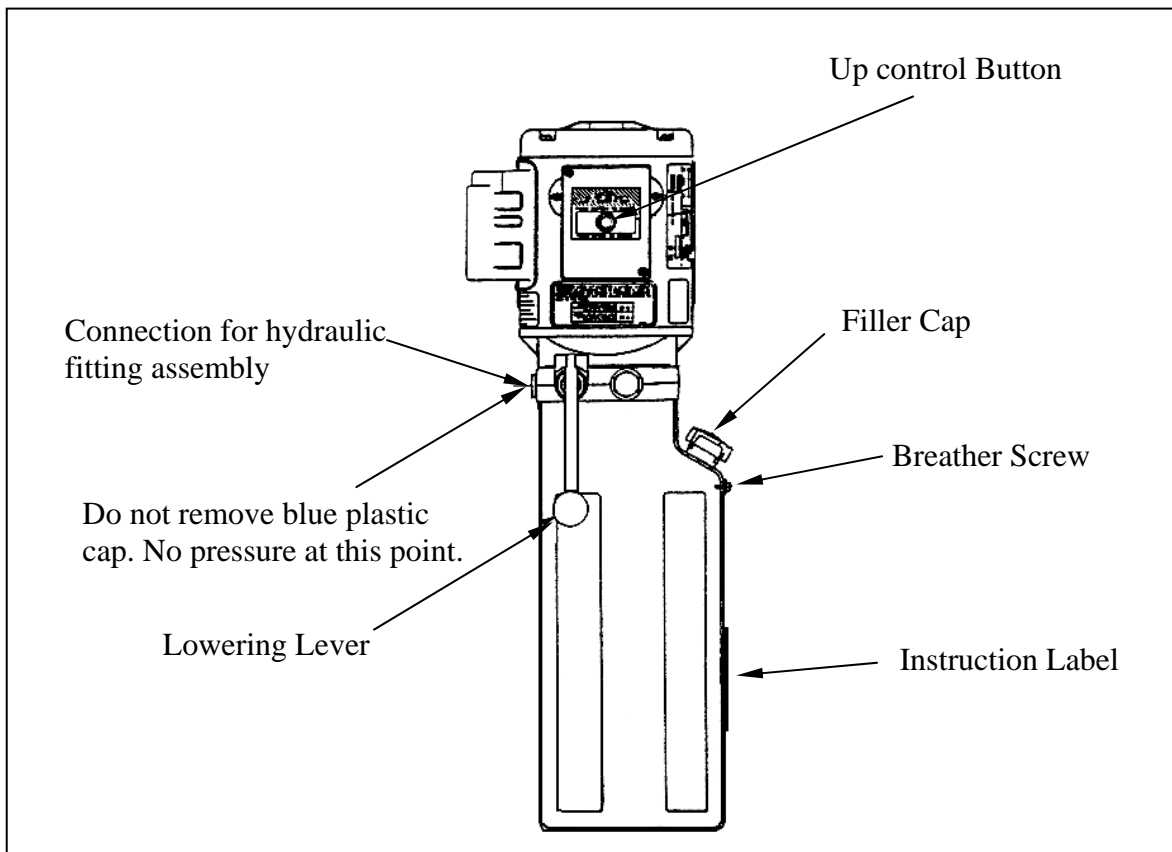

Figure 10. Power pack details
- Determine the highest corner of the lift and adjust remaining towers to level the lift, front-to-back and side-to-side (See positions 1, 2, 3 and 4 in **Fig. 10**). Use shims under tower base plate, as needed.
- When level, tighten the two (2) 5/8" - 11 UNC hex nuts at the top of each safety rack and the 3/8" - 16 UNC × 1" lg. hex bolts at the bottom and top back of each post.